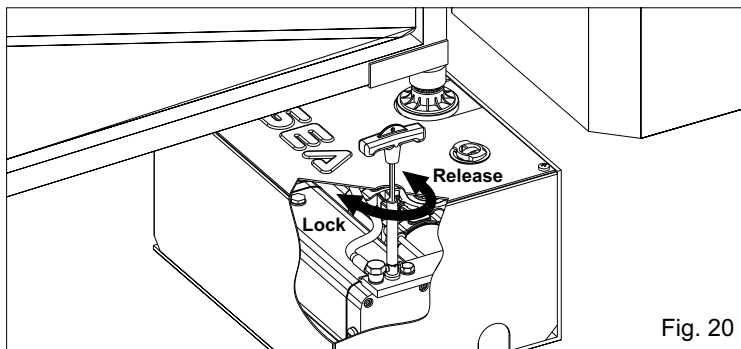

Fig. 20
- Put the key into the release extension and turn the handle of about 180° anti-clockwise (Fig. 20)